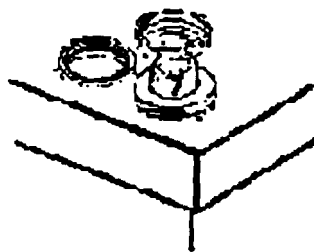

Figure 4-1
- (4) Battery posts that are worn or broken may be repaired or rebuilt using pig lead poured into battery post molds (Figure 4-1). The pig lead is available in 5-lb bars (Item 13, Appx. C). Battery post molds are supplied in two sizes: positive (+) post and Negative (-) post. The positive (+) post has a larger inside diameter than the negative (-) post mold.
- (5) Clean battery post. Dress down post to remove all burns, rough edges and corrosion with battery post cleaning tool (Item 3, Appx. B).
- (6) Place the battery post mold securely around the post being repaired and seat the mold to prevent the loss of molten lead from the base of the mold during the repair.